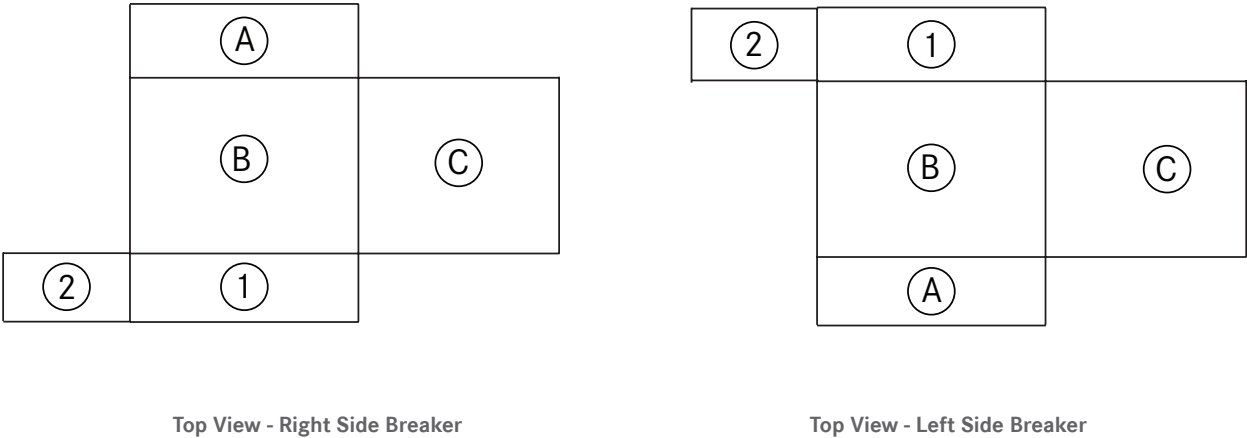

Figure 2: 280 Frame Enclosure Breaker Mounting Positions
- Reference Figure 2 for breaker mounting positions.